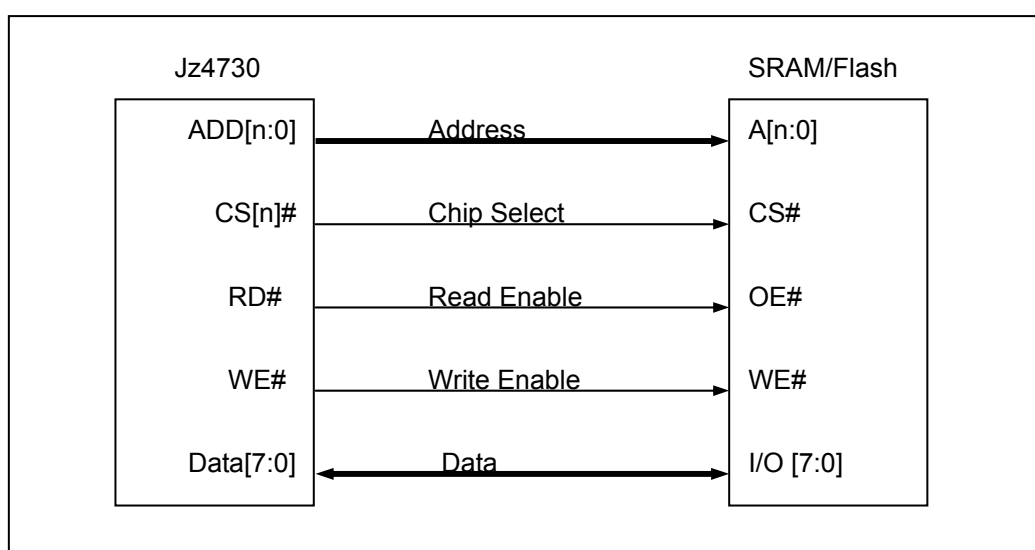

Figure 3-1 8-bit SRAM/Flash Interconnection Example
- The trace impedance for the D0 \pm and D1 \pm signals should be 45 Ω (to ground) for each USB signal D+ or D-. This may be achieved with 9-mil-wide traces on the motherboard based on the stack-up recommended in Figure 3-1. The impedance is 90 Ω between the differential signal pairs D+ and D-, to match the 90 Ω USB twisted-pair cable impedance. Note that the twisted-pair characteristic impedance of 90 Ω is the series impedance of both wires, which results in an individual wire presenting 45 Ω impedance. The trace impedance can be controlled by carefully selecting the trace width, trace distance from power or ground planes, and physical proximity of nearby traces.